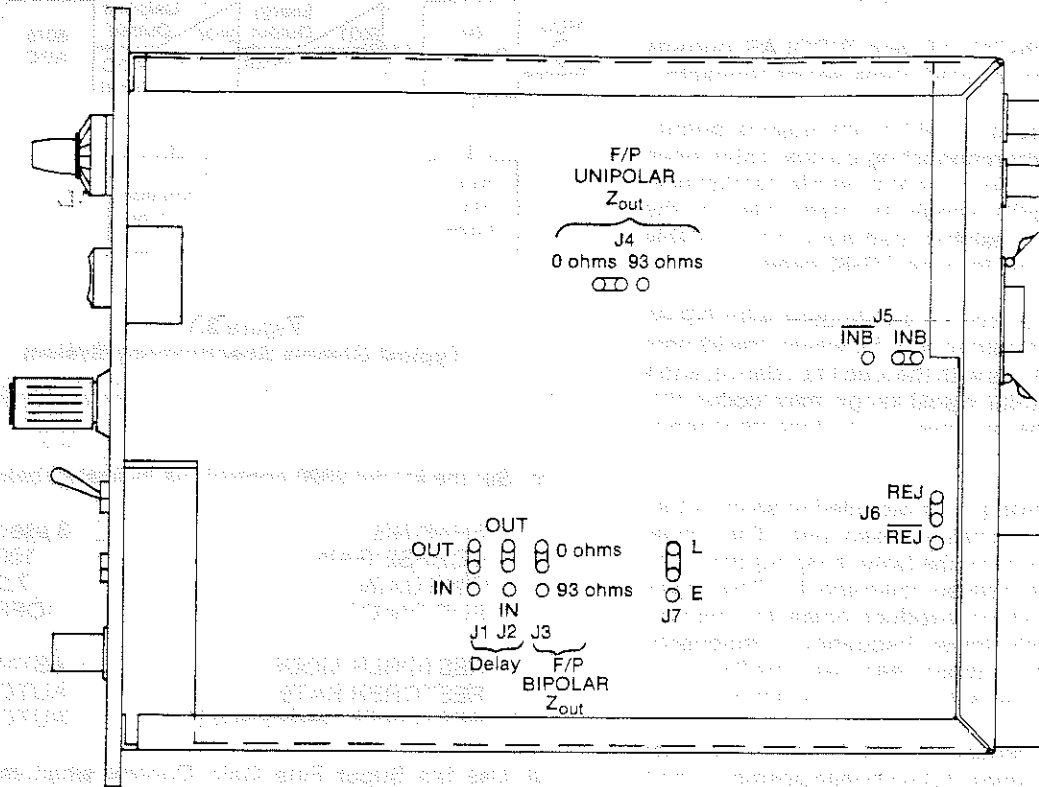

Figure 2.3
Figure 3.1 shows a typical gamma spectroscopy system. Prior to installation, the internal controls should be set to their desired positions. See Figure 2.3 for the locations of the controls.
Faster shaping time constants (0.5 through 4  $\mu$ s) give rise to output noise spectra having different frequency components than the slower shaping time constant (5 through 12  $\mu$ s). The Model 2020 provides a restorer response for each of the two conditions: a linear (L) response for the faster time constants and an exponential (E) response for the slower time constants. Jumper plug J7 (see Figure 2.3) selects the required response. Shipped in the linear (L) position. See Section 3.2.a for further information.